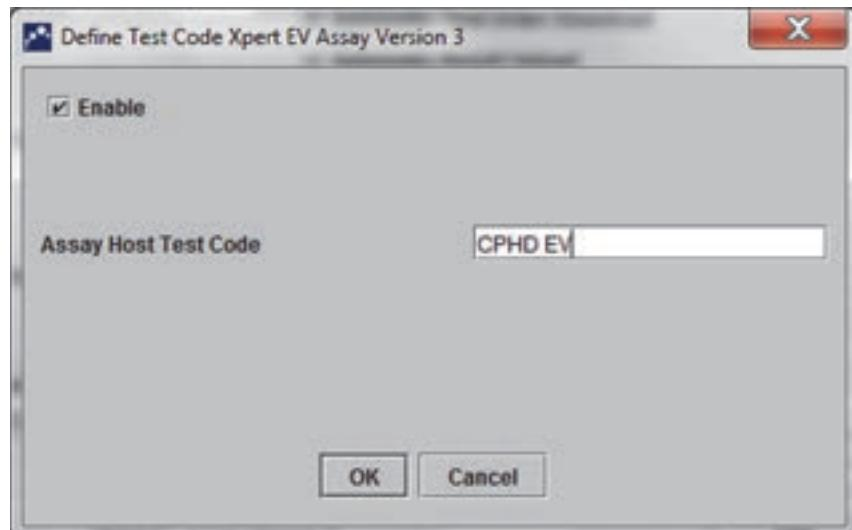

Figure 2-83. Define Test Code Dialog Box for a Single-Result Assay
1. In the **Host Test Code** table section of the Host Communication Settings tab (see Figure 5-93), click the desired **Edit** button to change the setting. The Define Test Code dialog box appears. See Figure 2-83.